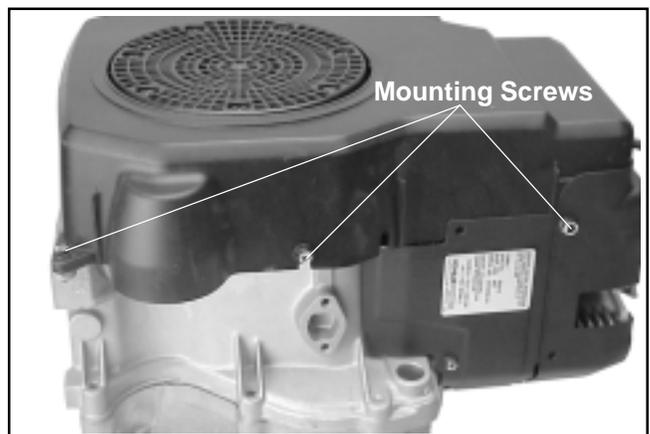

**Figure 11-52. Installing Cylinder Head Baffle.**
4. Install the cylinder head baffle and secure with the two hex. flange screws. Later production models use one screw and one hex. flange nut. See Figure 11-52.